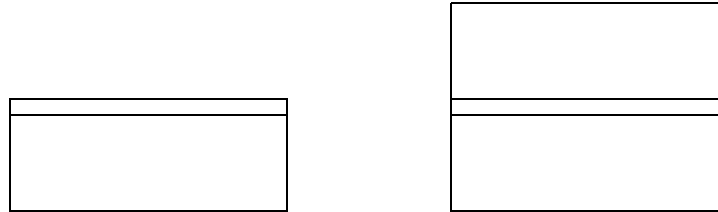

Figure 40
7. Save the family, and use Preview Visibility or reload it into the project to test it (see Figure 40).
9. In the “Type Properties” dialog, click the small Associate Family Parameter button to the right of Shelf Material and repeat the steps above to create a new parameter in the host file. You can name it: **Shelf Material** again (See Figure 40).